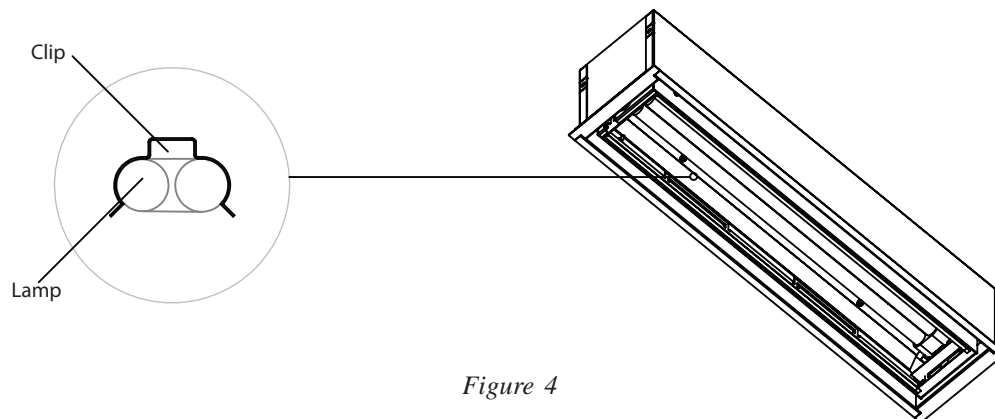

Figure 4
8. With the power off, install the lamps (Figure 4). Make sure they are firmly seated in their sockets. Note: The socket's locking tabs will snap into the indentations on the base of the lamp.